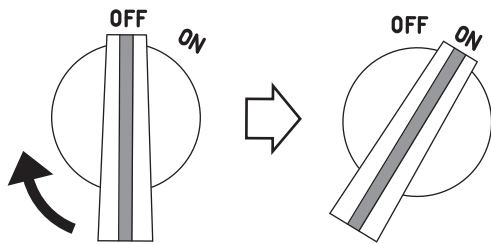

Fig. 10
- 5 Turn on the engine switch on the rear cover. (Fig.10)